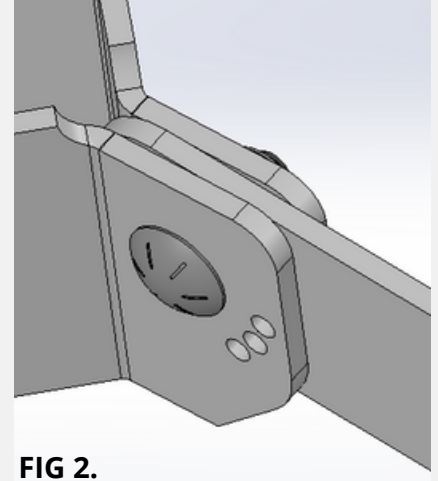

FIG 2.
4. Insert 1/2" x 1-1/2" Carriage Bolt through the Base and Leg, tighten to secure the Leg, but do not overtighten as the Leg should rotate freely, as Shown in Fig. 2